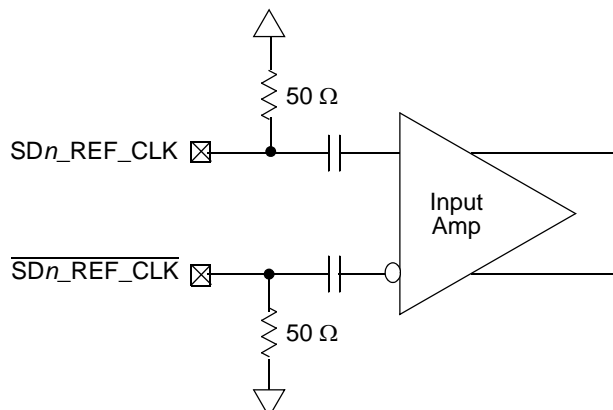

Figure 44. Receiver of SerDes reference clocks
- The SDn_REF_CLK and $\overline{SDn_REF_CLK}$ are internally AC-coupled differential inputs as shown in Figure 44. Each differential clock input (SDn_REF_CLK or $\overline{SDn_REF_CLK}$) has on-chip 50- Ω termination to SV_{SSn} followed by on-chip AC-coupling.